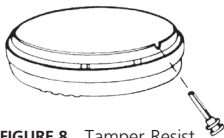

FIGURE 8 Tamper Resist Locking Pin
7. USING TAMPER RESIST LOCKING PIN: To make your smoke alarm tamper resistant, a locking pin has been provided in the bag with the screws and anchors. Using this pin will help deter children and others from removing the alarm from the mounting plate. To use the pin, insert it into the hole in the side of the alarm after the alarm has been installed on the mounting plate (see figure 8).